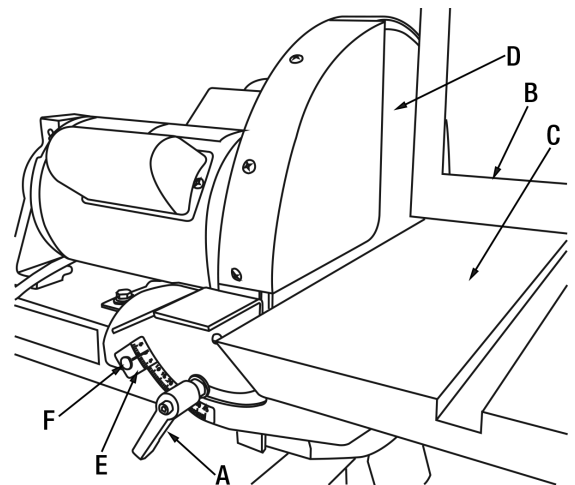

Figure 9
1. Loosen the table lock knob (A) Fig.9.
2. Place a square (B) Fig.9 on the sanding disc table (C) and against the sanding disc (D) to check for squareness.
4. If the pointer (E) Fig.9 doesn't point exactly at 0° on the scale, loosen pointer screw (F) and adjust it so it indicates 0°. Retighten pointer screw.